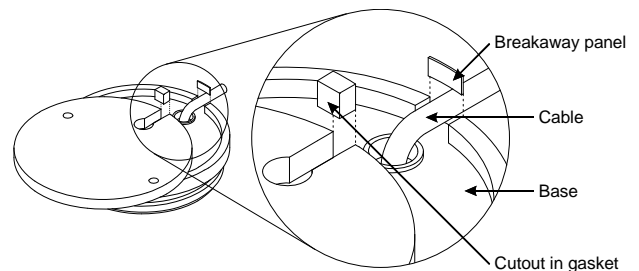

Figure 2
- Use sturdy wire cutters to cut each side of the breakaway panel in the camera base. See Figure 2.